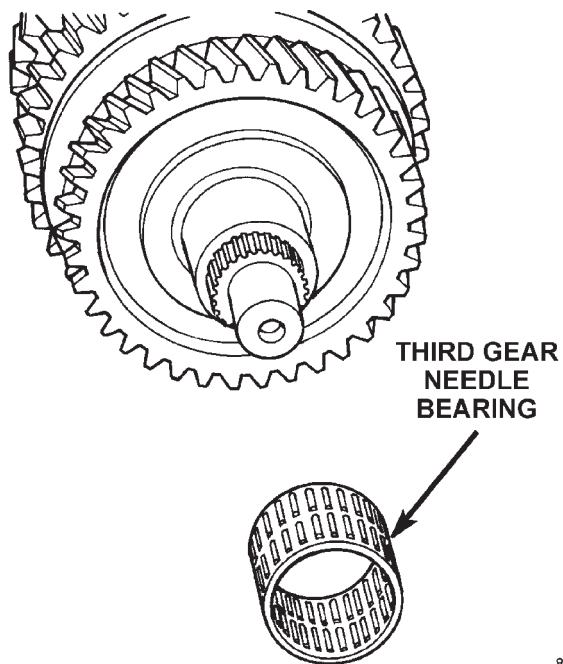

Fig. 60 Third Gear Needle Bearing Removal
(3) Remove third gear bearing from mainshaft (Fig. 60).